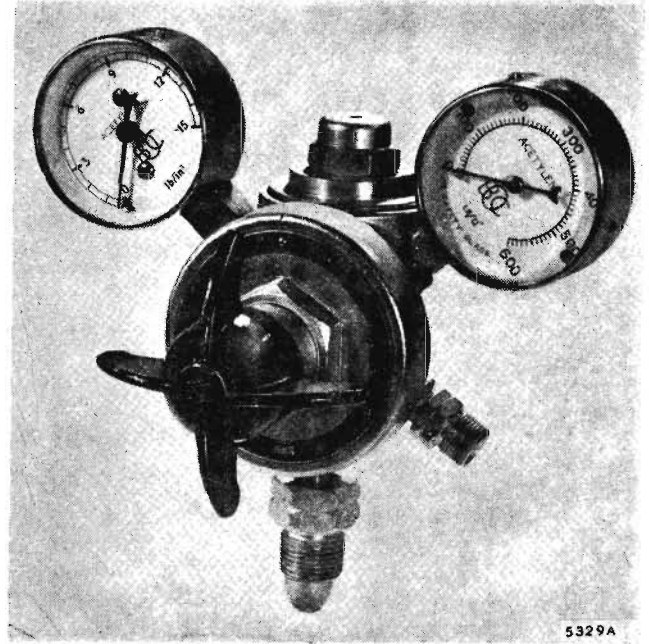

Fig. R.17
- (5) Screw the acetylene regulator (painted MAROON) (Fig. R.17) into the acetylene cylinder valve. The acetylene cylinder valve outlet and acetylene regulator connection have **left-hand** screw threads.
- (6) Tighten the regulator in the cylinder valve. Do not use excessive force, but make certain that the joints are gas-tight.
- (7) Connect the hose (acetylene RED, oxygen BLACK) to the screwed outlets of the regulators by means of the screwed connections secured in the ends of the hose. Blow the hose through before attaching to the regulator or blowpipe in order to remove dust and dirt and to remove chalk when the hose is new.
- (8) Connect the other end of the hose, that fitted with a hose protector, to the blowpipe—the acetylene hose to the connection marked 'A', the oxygen to the connection marked 'O'. Keep the blowpipe control valves closed. (A high- or low-pressure blowpipe can be used with the dissolved acetylene. If a low-pressure blowpipe is used the acetylene pressure should never exceed 2 lb./sq. in. [14 kg./cm.²].)
- (9) Fix the appropriate nozzle to the blowpipe. (See the table, page R.9.)
- (10) Open the cylinder valves very slowly by means of the cylinder key. Do not open suddenly, or there may be serious damage to the regulator and the possibility of an accident. Open the cylinder valve spindle one turn only.
- (11) Set the regulators at the correct working pressures. (See the table, page R.9.)
- (12) Open the acetylene control valve on the blowpipe, wait a few seconds until the air is blown out and pure acetylene is coming from the blowpipe nozzle, then light, preferably by means of a spark lighter, type S.L.I.
- (13) Reduce or increase the acetylene supply by the blowpipe valve until the flame just ceases to smoke.
- (14) Turn on the oxygen by the blowpipe control valve until the white inner cone in the flame is sharply defined, with the merest trace of an acetylene haze.